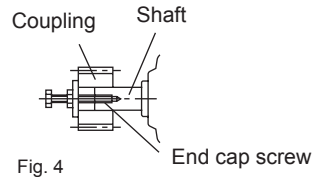

Fig. 4
- It is recommended to mount the coupling by shrink fit or an end cap screw (Fig. 4).